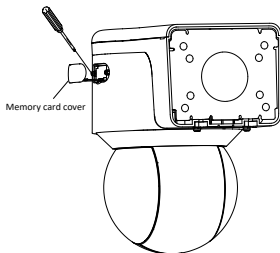

Figure 2-15 Open the memory card cover
1. Pull the decorative cover out and loosen 2 screws on memory card cover with screwdriver as shown in Figure 2-15.
1. Rotate the installation plate anticlockwise, and remove the installation plate, as shown in Figure 2-15.